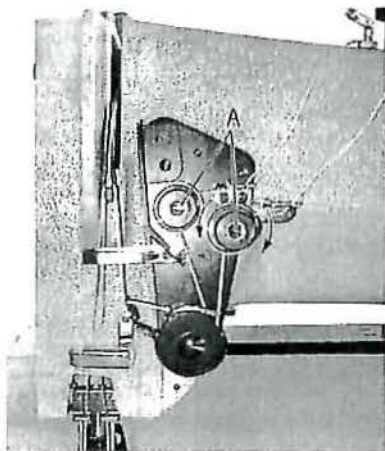

Fig.13
9.REGULATING THE THREAD TENSIONS (Figs. 13 & 14)
- 1) The tension on the needle thread is regulated by the thumb nut A (Fig. 13) .